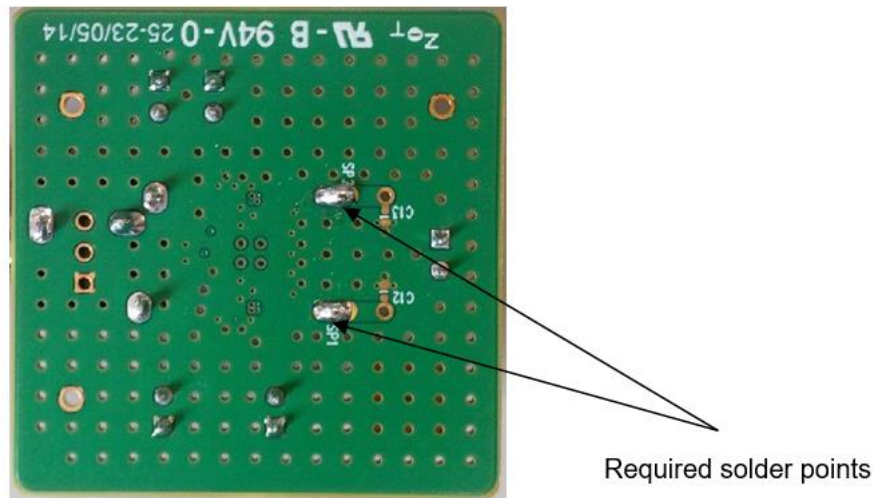

Figure 2. 189-01-A (bottom layer of board)
- Ensure SP1 and SP2 link are soldered, which connect the output of DA7202 to J5 (see Figure 2).